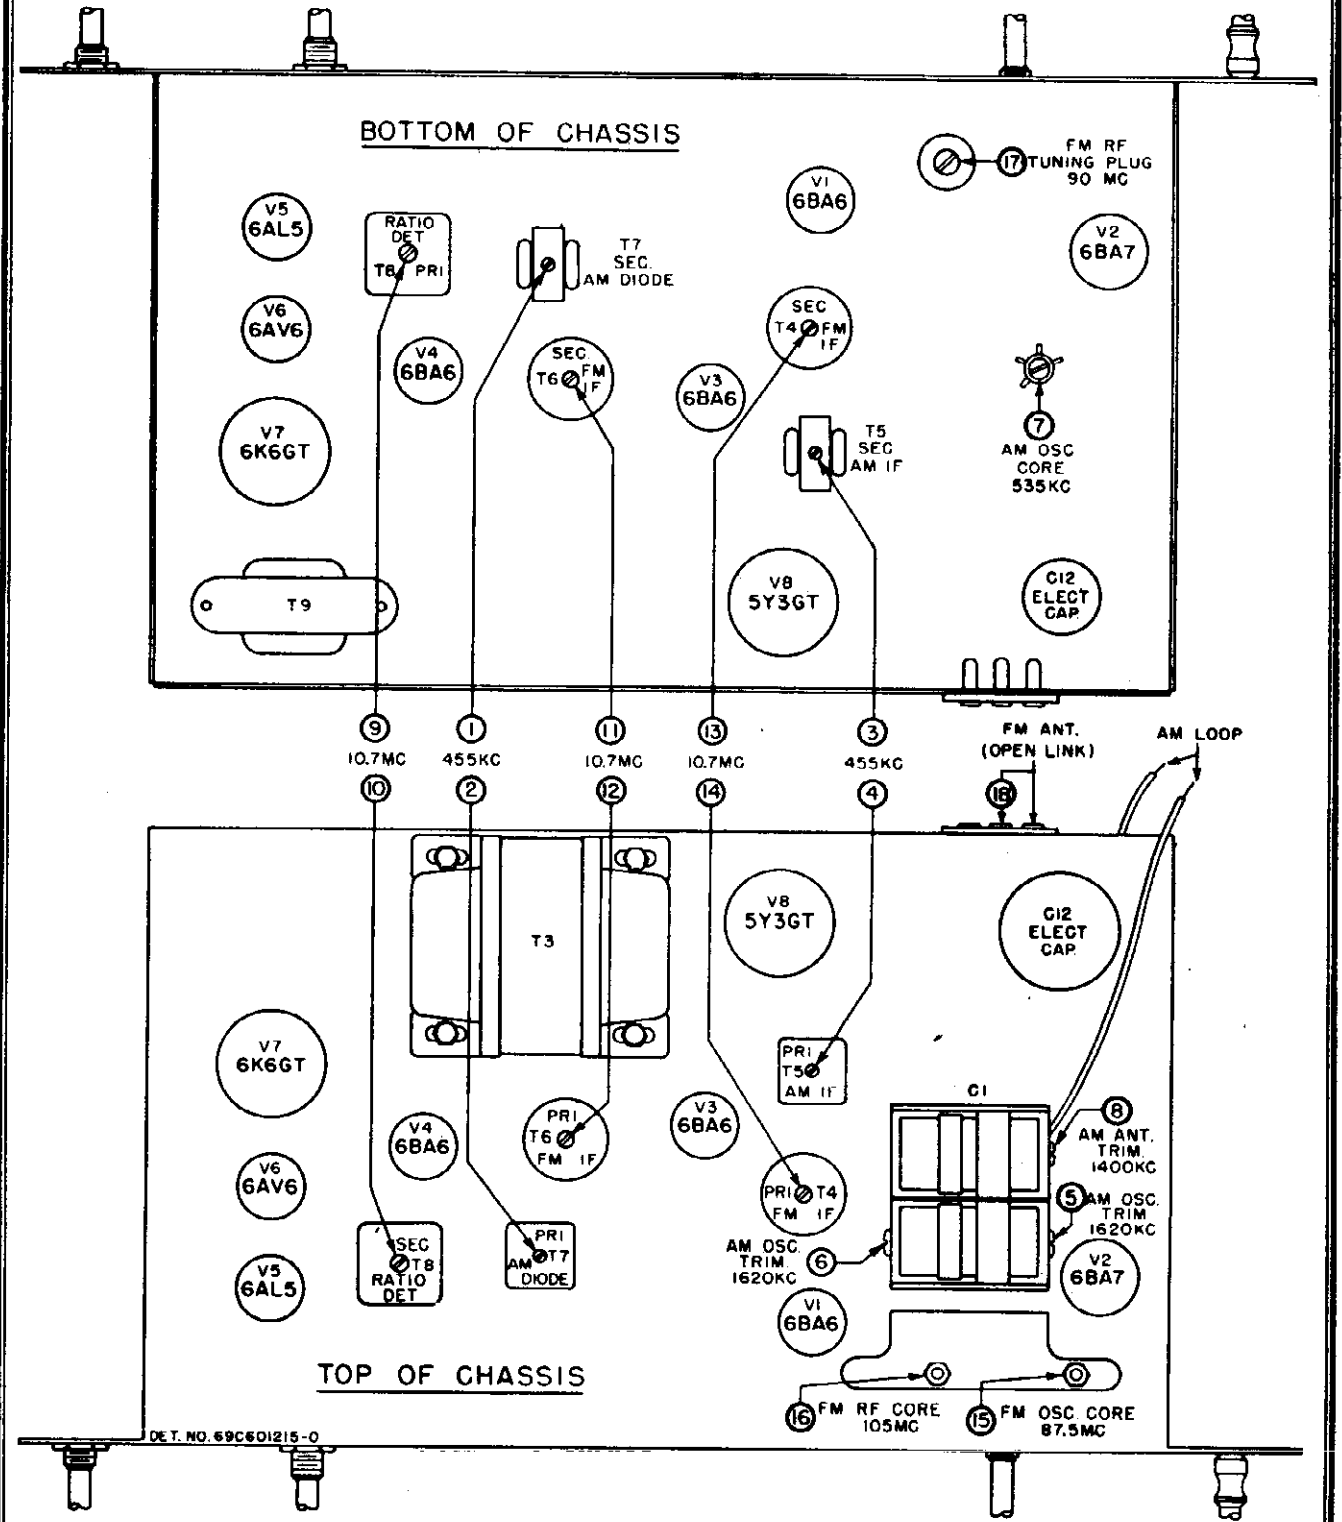

FIGURE 4. TUBE AND TRIMMER LOCATIONS
- 3. Refer to Figure 4 for the location of all alignment trimmers and cores.